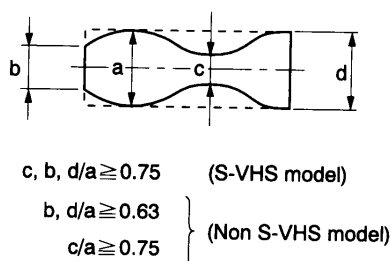

Fig. 2-1-81
3. Make sure the video envelope waveform (in its maximum output) meets the specification shown in Fig. 2-1-81. Again make sure the same by playing back the SP mode 2 MHz video signal on the alignment tape. If not satisfied, adjust as follows:
1. Make recordings and playback the tapes (E-180 and E-240) in SP and LP modes and make sure the playback output envelope meets the specifications shown in Fig. 2-1-81.